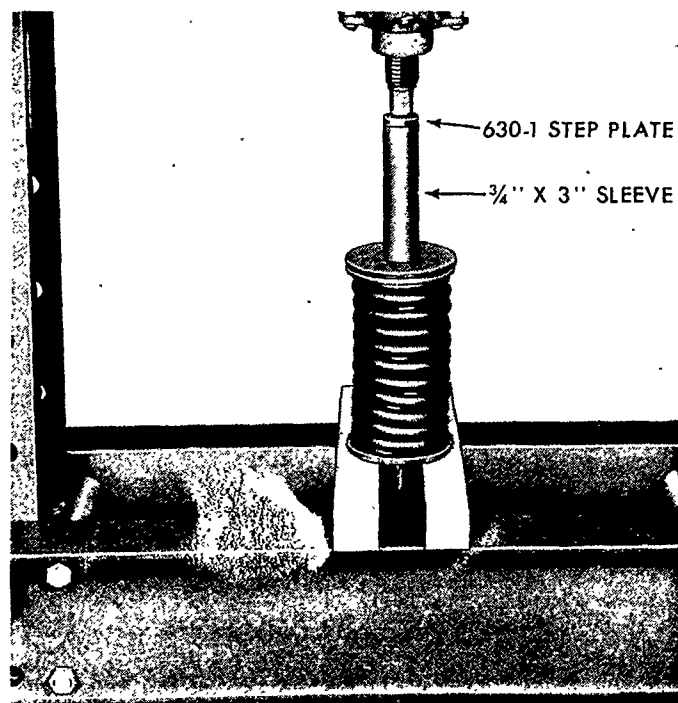

Figure 115
1. Place servos 2 or 3 in a press using a $\frac{3}{4}$ " x 3" sleeve and Step Plate No. 630-1, and compress the springs sufficiently to remove the nut on the end of the piston rod. See Figure 115.